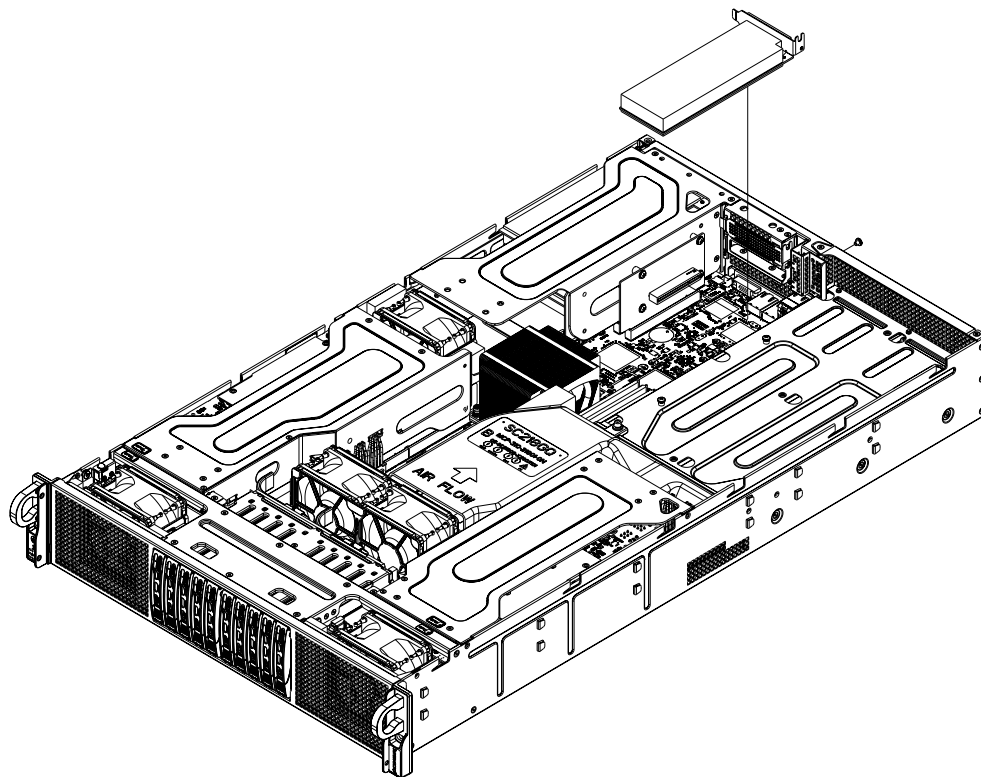

Figure 6-13 Low-profile PCIe Card Remove/Replace Example
6. Secure the rear bracket in the slot with the screw removed in step 3 and connect cables to the add-on card as necessary. See Figure 6-13 on page 60 for an example.